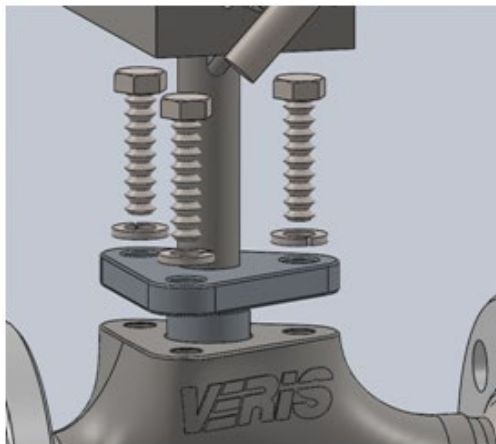

Figure 9. Packing Bolt Orientation
- Install packing bolts per orientation shown (See Figure 9), hand tighten.